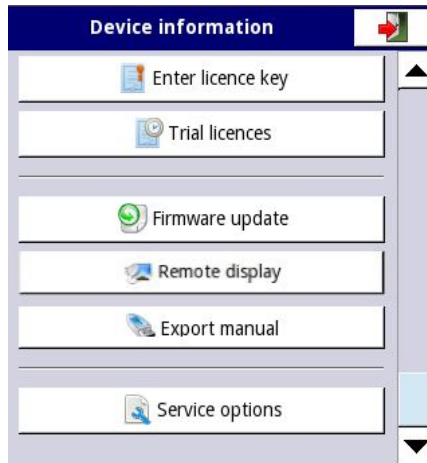

Fig. 7.33. Device information menu (cont.)
Enter licence key button (see **Fig. 7.33**) allows the user to enter a licence key purchased from the manufacturer (or supplier), enabling additional software options which enhance the functionality of the device. After entering and accepting the licence key the device automatically starts up with new software options (e.g. if the licence key for data logging is entered, the text under the **Licences** heading appears as: **Logging**: the period of validity – see **Fig. 7.33**).
Trial licences (see **Fig. 7.33**) allows the user to activate a 30-days licence for the specified functionality once if the functionality has never been activated before (30-days or permanent). After selecting and accepting the licence key, the device will automatically start up with new software functionality (i.e. if the user select the licence key for E-mail notification in the **Device information** in section **Licences** will appear the text „**E-mail notific.: available for 30 days**” - see **Fig. 7.33**).
Firmware update button (see **Fig. 7.33**) allows the user to update the device software. To perform the update:
- plug in the flash drive (some high capacity Pendrives are not supported, best choice is a pendrive with 2GB capacity) - start the update process by pressing the **Firmware update** button (see **Fig. 7.33**).
The **Service options** button (see **Fig. 7.33**) allows the user to: